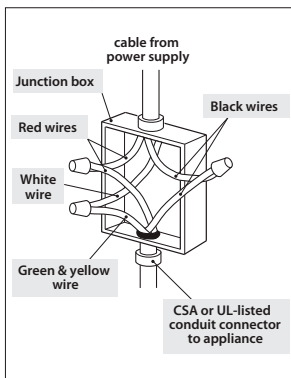

Fig. 3
- 7a Connect the green cooktop cable wire to the neutral (white) wire in the junction box (Fig. 3).